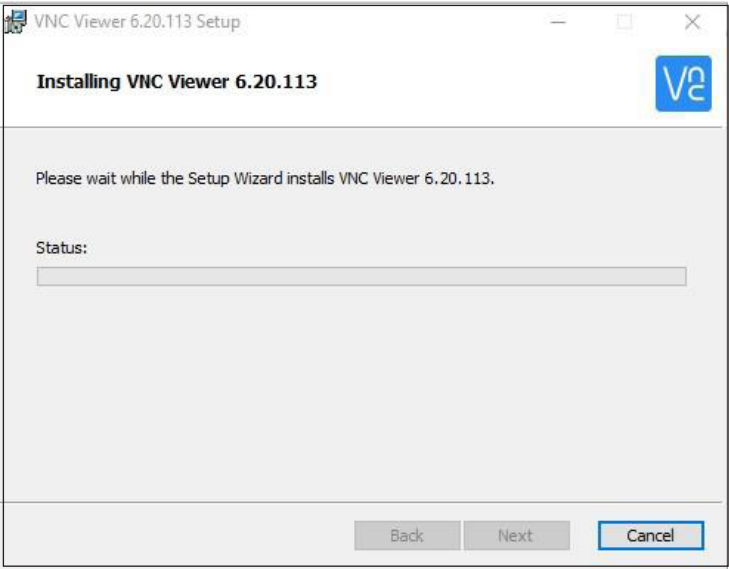

Figure 19. Install VNC Viewer
- 1. Download and install the VNC Viewer from VNC Connect/Real VNC (Figure 19): <https://www.realvnc.com/en/connect/download/viewer>.